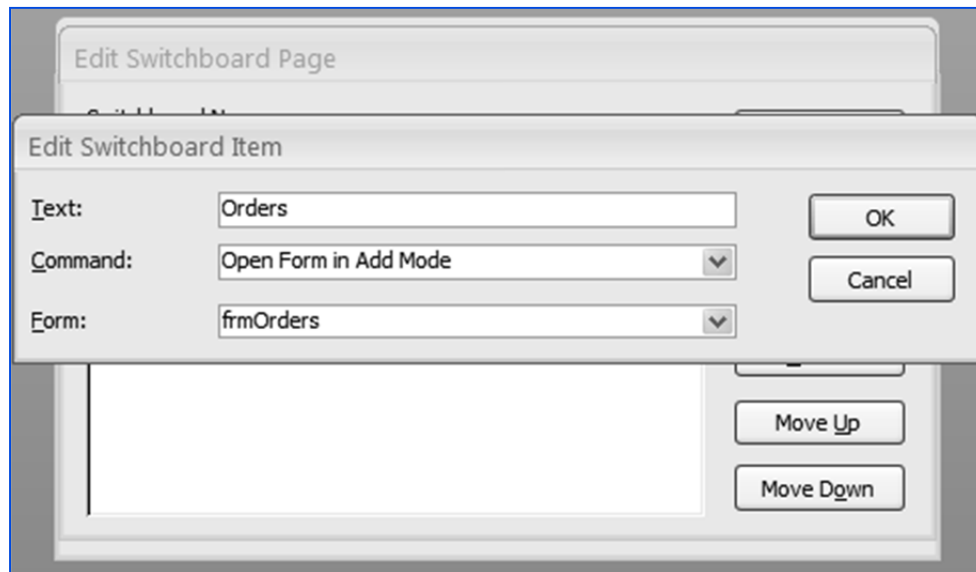

Fig. 4.3.12: Create Orders Button
12. From the *Form* list, select *frmOrders* and click *OK*. The *Edit Switchboard* window appears, as shown in Fig. 4.3.12.